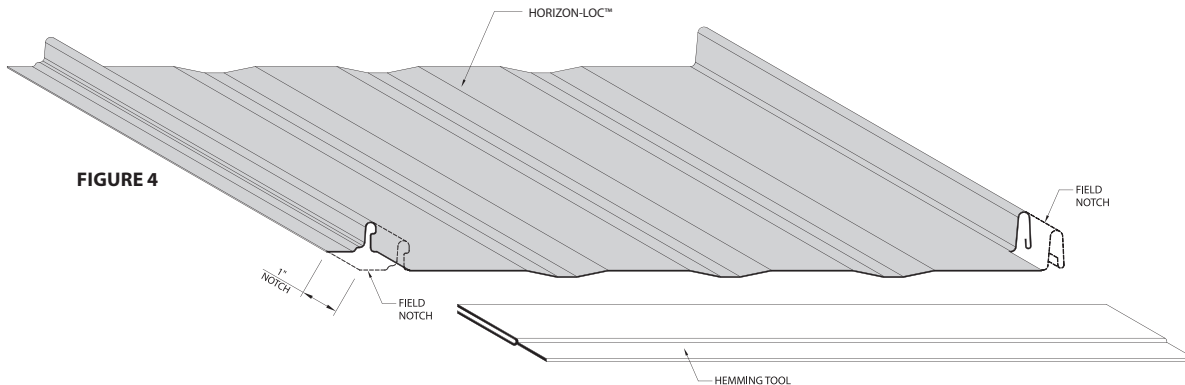

FIGURE 4
STEP 1: Create a tab in the panel by cutting a notch in both sides of the panel. Cut through the male and female legs/ribs 1" up from panel end. Then cut on inside of major ribs with metal shears. See Figure 4.